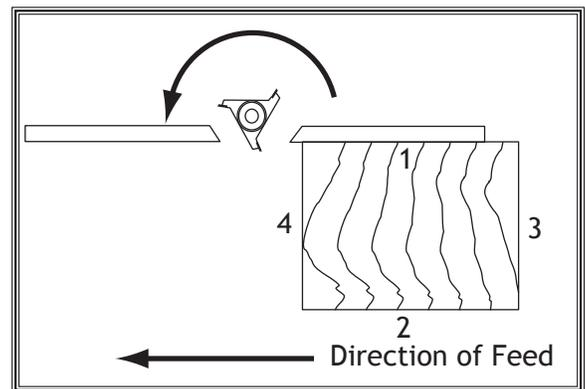

Figure 35. Sequence for shaping edge around workpiece.
1. Cut workpiece (sides 1 & 2) with end grain *first* (see **Figure 35**).
2. Cut sides *with* grain (sides 3 & 4) last, or in sequence, as shown in **Figure 35**.